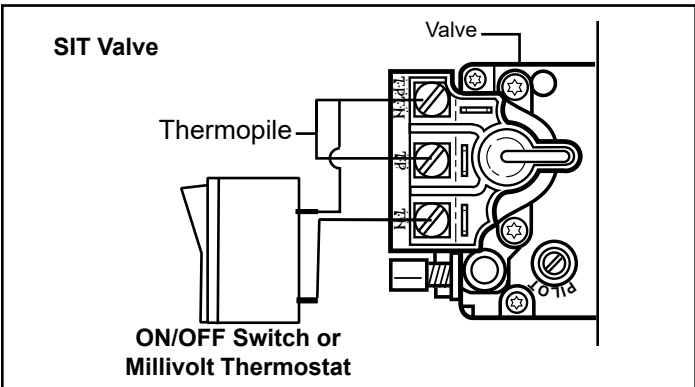

Figure 2.7 - Install wiring to switch before connecting to valve.
- 3. Attach wires to valve terminals, Figure 2.7.